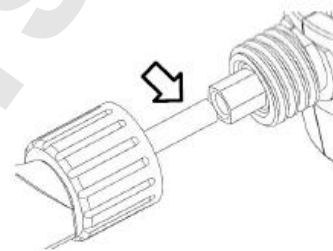

Figure 6 Diagram of the dismantling of the buret
Step4 Remove the burette (Figure 6)